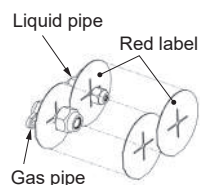

Fig. 4-3
- Red labels on the liquid pipe and the gas pipe indicate that flammable refrigerant is used. If you removed them for piping work, be sure to return them to their original positions after the work is completed. (Fig. 4-3)